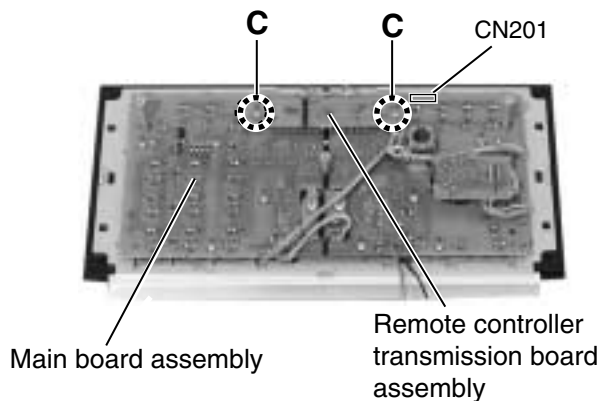

Fig.4
■ **Removing the remote controller transmission board assembly (See Fig.4)**